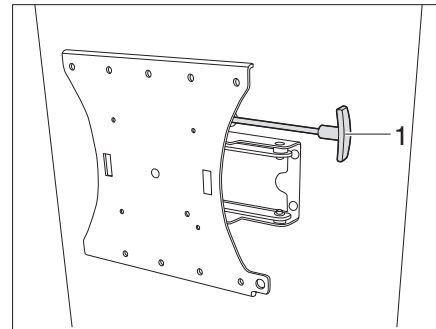

Fig. 133 Holder with jointed arm (variant 2)
- Pull the lever (Fig. 133,1) to release the flat screen from the latch.
- Push the lever (Fig. 133,1) back in to lock.